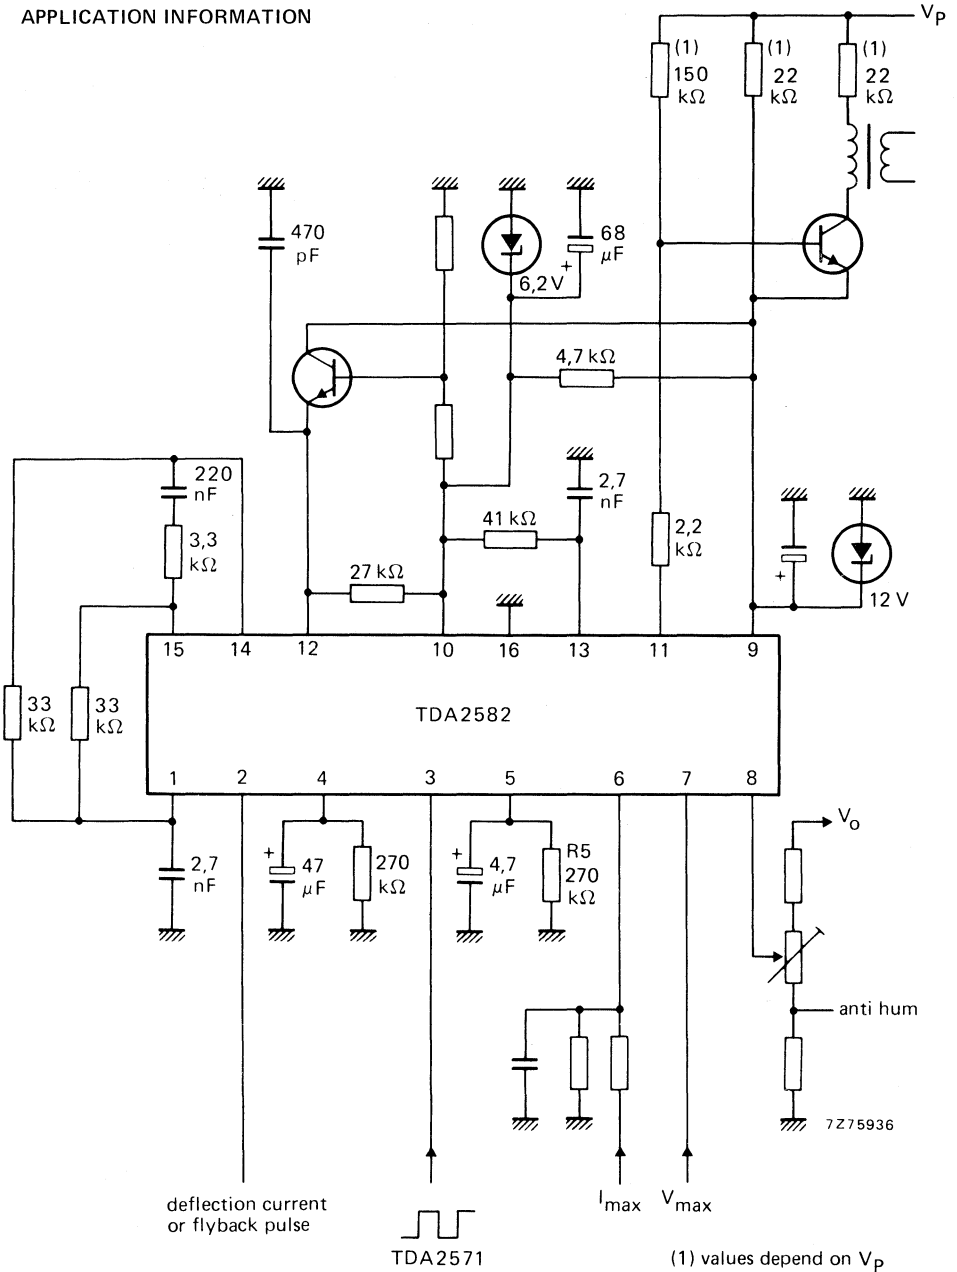

Fig. 4 Circuit diagram.
**CHARACTERISTICS** $V_{9-16} = 12\text{ V}$ ;  $V_{10-16} = 6,1\text{ V}$ ;  $T_{amb} = 25\text{ °C}$ ; measured in Fig. 4
With a resistor of  $2 \times 33 \text{ k}\Omega$  and a capacitor of  $2,7 \text{ nF}$  the control steepness is  $0,55 \text{ V}/\mu\text{s}$  (Fig. 4).